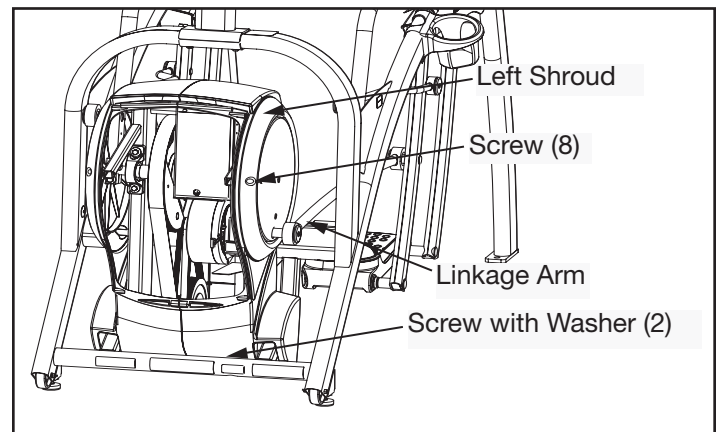

Figure 3
- A. Remove the ten screws and two washers securing left shroud in place. See Figure 3.